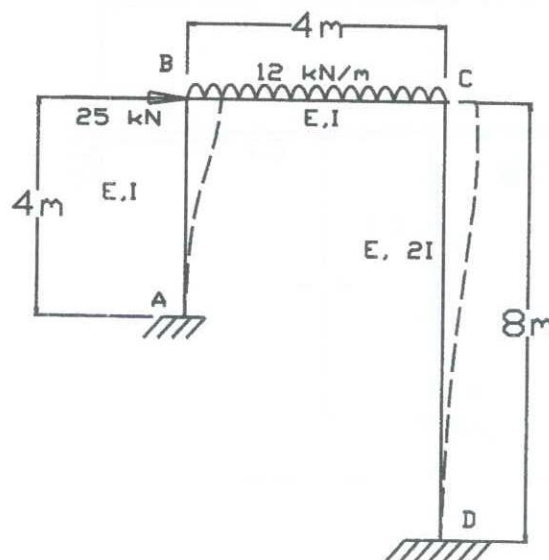

Fig. Q2
- Q2. Fig. Q2. Shows a portal frame ABCD subjected to both horizontal and vertical loadings with stiffness values as indicated in the Figure. Joint B of the portal frame ABCD is subjected to horizontal load of 25 kN while the beam BC is subjected to 12 kN/m uniformly distributed load.